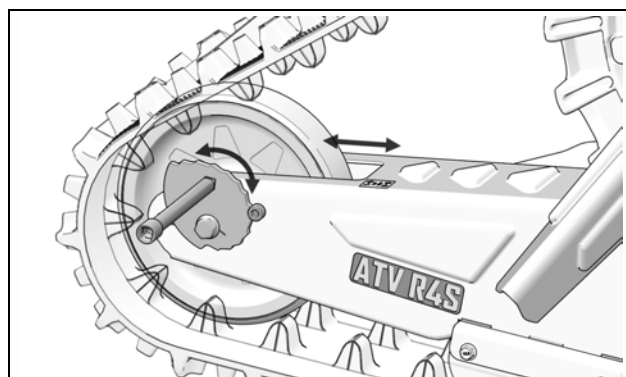

Figure 26
- Turn cams to adjust tension as close as possible to the recommended tension. Figure 26.